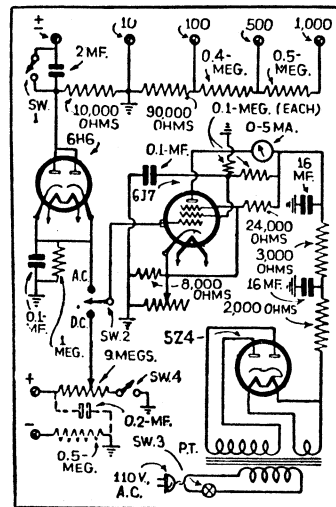

FIG. 14—A Versatile V.T. Voltmeter.
ground or across voice coil); gain in final stages of a receiver; etc. In some cases an A.C. operated V.-T. voltmeter will induce a terrific hum in a receiver when A.V.C. voltages are being measured. There are a number of things which can be done to cure this: (1) change the power transformer of the V.T. voltmeter (which may have leakage or too high a capacity between primary and secondary, etc.); (2) insulate all grounds from the chassis, including insulated mounting of the filter condensers of V.T. voltmeter; (3) insert a resistance and capacity filter in the ground lead of the D.C. section of the V.T. voltmeter (see diagram); (4) reverse line plug; (5) remove external ground from receiver and line bypass condenser (if there is one). See Fig. 14.